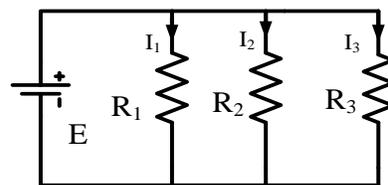

Fig.2: Circuit for Verification of KCL
4. Connect the circuit as shown in figure 2.